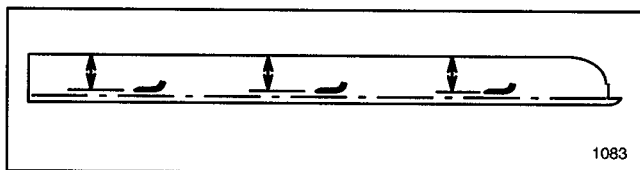

Figure 22
2. Rotate blade(s) until the ends face forward and backward. Measure from inside of cutting unit to cutting edge at front of blade (Fig. 22), and remember this dimension.